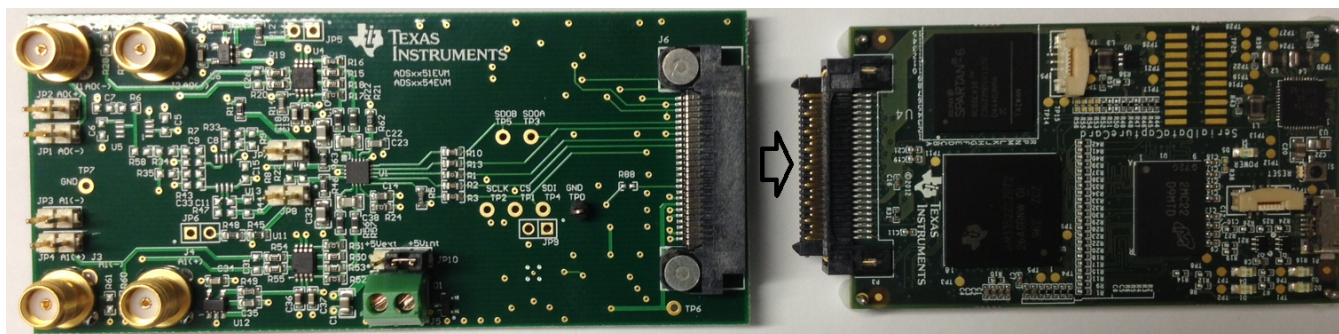

Figure 6. Connecting ADS7851EVM Board to SDCC Controller Board
- Step 3. Connect the ADS7851EVM board to the SDCC controller board as Figure 6 illustrates.